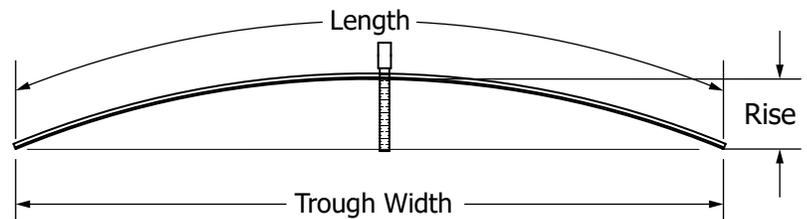

Figure 8-1
- Figure 8-1.** Verify trailer width subtract 1" for trough width, see table, find length base on trailer width and rise, cut to size.